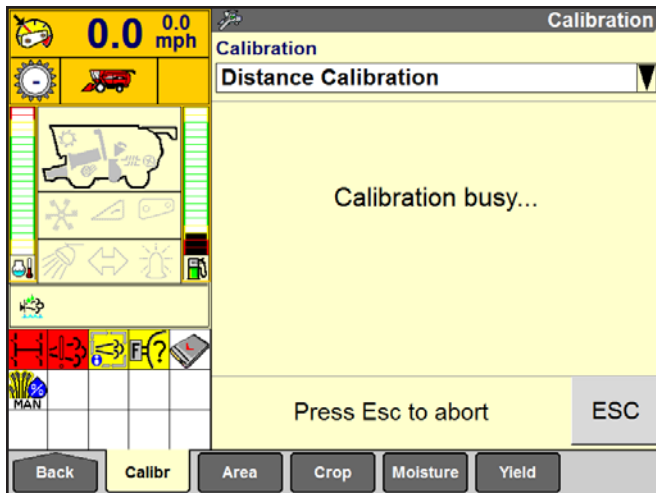

Figure 24.1
- Displays screens for the actual distance value input and updating the calibration (see figure 24.1)